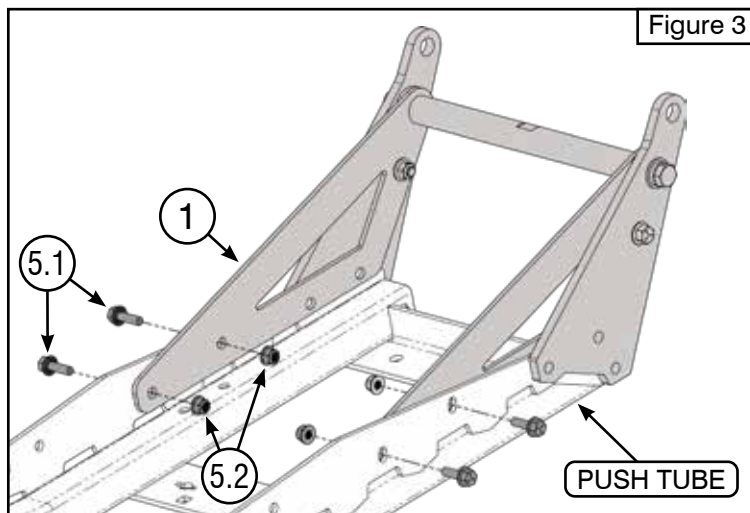

Figure 3
4. Place the subassembly onto the push tube. Ensure gusset (1) is placed inside the rib on the push tube. Loosely install front bolts (5.1) and lock nuts (5.2) as shown in **Figure 3**.
3. Once Side Shield is in place, secure wear bar and side shield using the 5/16 bolt (3.2) and 5/16 nut (3.6) as shown in **Figure 3**.